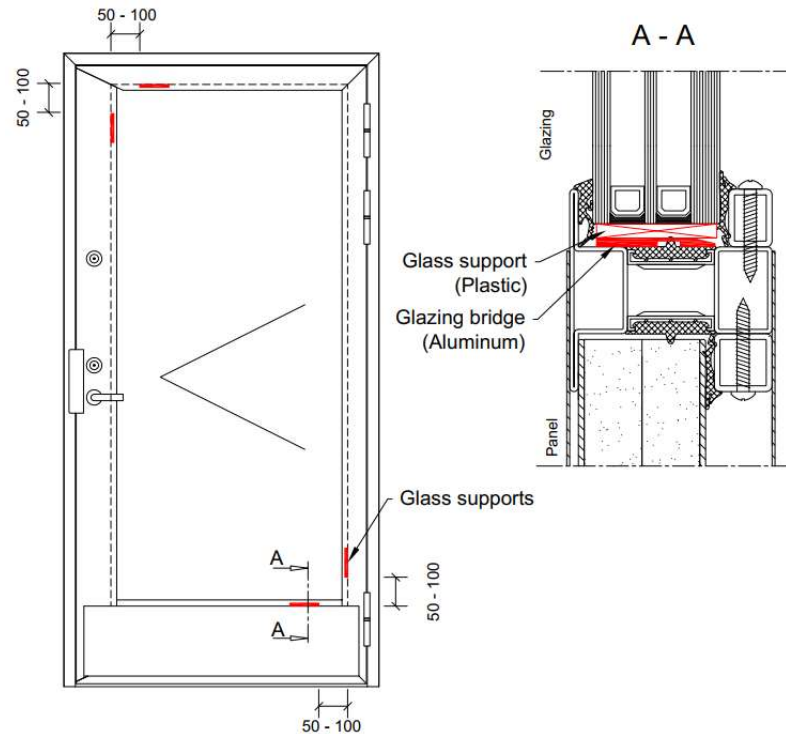

Figure 9 Glass supports
4. Glue the aluminum glazing bridges on to the frame and then place the plastic glass supports on top of them (Figure 9).